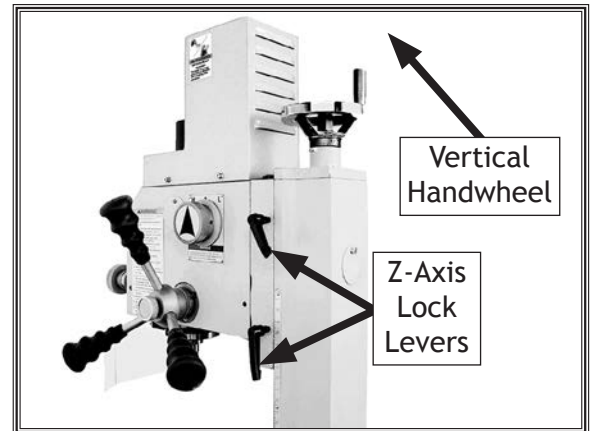

Figure 18. Location of Z-axis lock levers.
2. Loosen both Z-axis lock levers shown in **Figure 18**.
3. Use vertical handwheel shown in **Figure 18** to adjust headstock height.